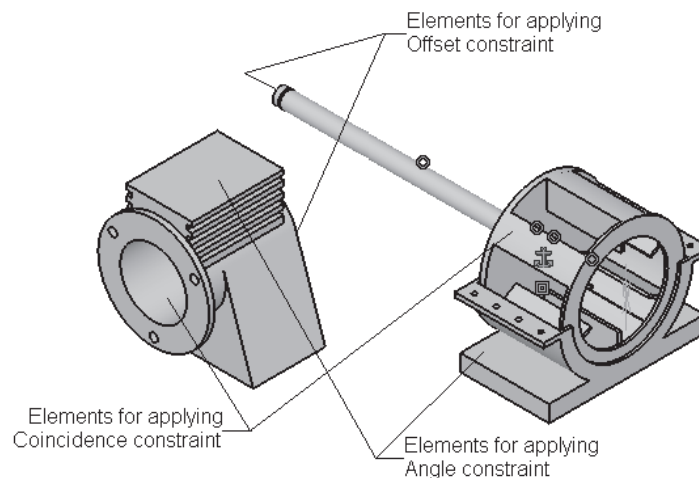

Figure 11-76 Elements to be selected for applying various constraints
2. Now apply the **Offset** constraint between the faces shown in the Figure 11-76. Set the **Orientation** to **Same** and the **Offset** value to **zero**.
3. Apply the **Coincidence** constraint between the axis of the shaft and the axis of the hole on the back side of the Motor, refer to Figure 11-76. After applying both the constraints, update the model.
4. Choose the **Angle** button from the **Constraints** toolbar. Select the faces, as shown in Figure 11-76. Select the **Parallelism** radio button to make the selected faces parallel.